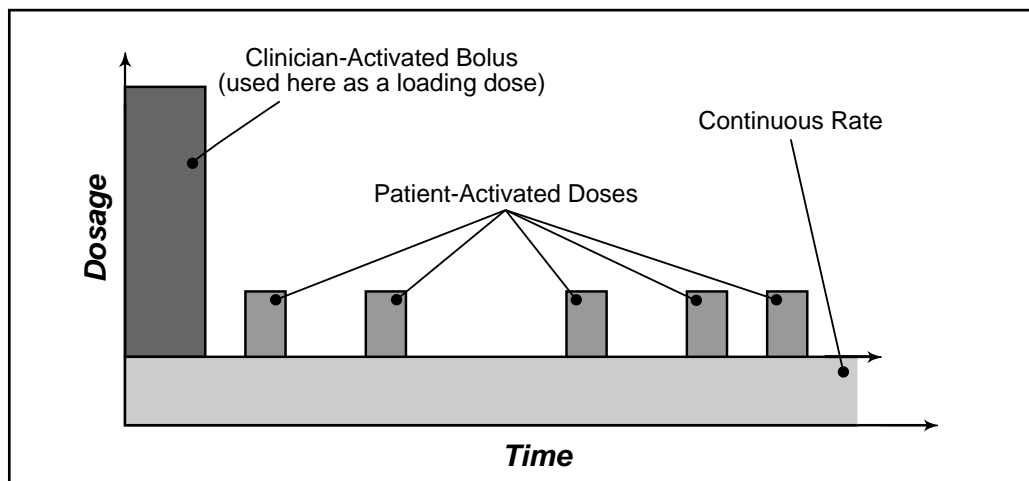

Figure 3. Combined delivery modes. You may program each mode individually or in combination with each other.
The CADD-PCA® pump has three methods, or modes, of delivery: (1) Continuous Rate mode (rate); (2) Patient-Activated Dose mode (dose); and (3) Clinician-Activated Bolus mode (bolus). You may program each of the modes individually or in combination with each other. The following graph, Figure 3, illustrates the combined delivery modes. Further details concerning these delivery modes are introduced in Section 3.3, “Programming the CADD-PCA® Pump.” and Section 3.9, “Using the Optional Clinician-Activated Bolus (MG or ML).”